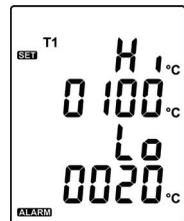

Fig.16
- (1) Press the or button to turn on or off.
- (2) When setting on mode, press the button to set Hi and Lo limit. (see Fig.16)